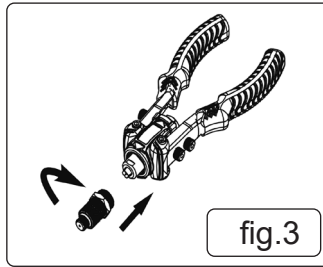

fig.3
- 4.1.2. Screw rivet sleeve piece (fig.1.2) into the rod (fig.3).